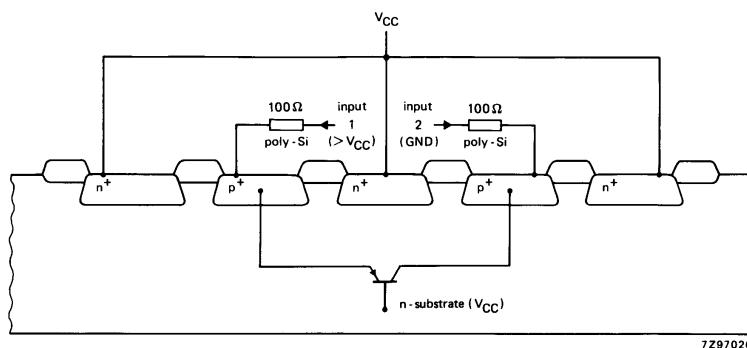
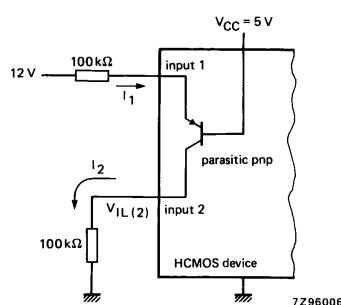

Fig.30 Cross-section of the input protection of an HCMOS device showing the parasitic pnp transistor between adjacent inputs.
Fig.31 12 V-to-5 V logic-level conversion at HCMOS inputs using  $100\text{ k}\Omega$  series resistors.
Parasitic bipolar pnp transistors can be present between adjacent inputs, e.g. between an input protection diode to VCC and the same diode at the adjacent input, as shown in Fig.30. If the recommended operating input voltage is exceeded, perhaps by ringing of more than 0.7 V, current into the terminal (I1) can cause a current I2 in the parasitic transistor and in the adjacent input (Fig.31). Because I2 in the adjacent input has to be drained by the source driving that input, the source resistance (R) must be low. If R is not low enough, the parasitic current can lift the source voltage and cause unwanted switching.
A low  $\alpha$  permits proper logic operation in the presence of transients and also allows HIGH-to-LOW voltage translation simply by adding series input resistors. For example, in Fig.31, 12 V system logic is converted to 5 V system logic by adding a 100 k $\Omega$  resistor in each input. Since the logic signals are delayed by 1-2  $\mu$ s, this arrangement is suitable for rather slow 12 V control logic such as that in automotive applications. When the input diodes are used as clamps for logic level translation, the total input current should be limited to 20 mA.